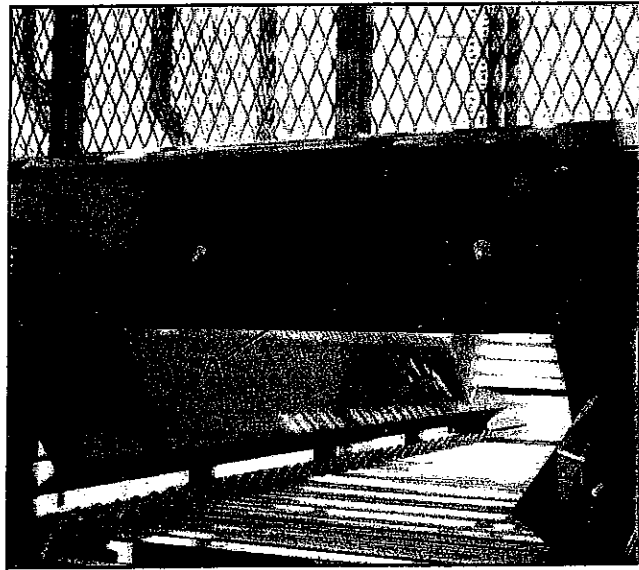

FIGURE 30 - TANK DISCHARGE GATE
A sliding gate (A) is provided in the tank discharge opening. This can be raised or lowered to vary the beet discharge rate from the tank for various beet sizes and operating conditions (see Figure 30).